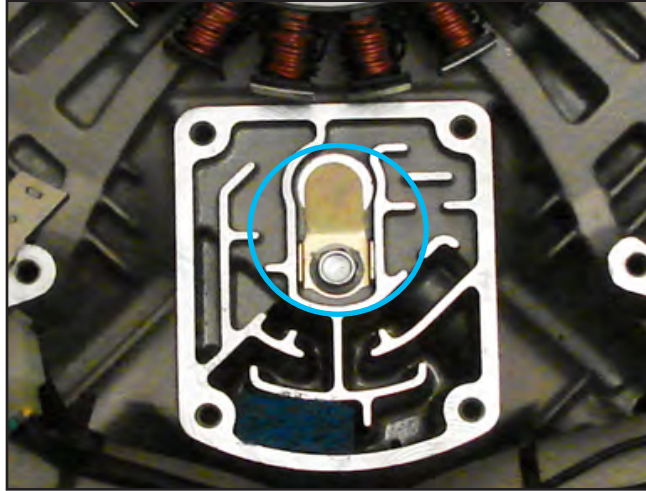

Figure 24
1. Install the breather reed with the reed toward the engine block (Figure 24).